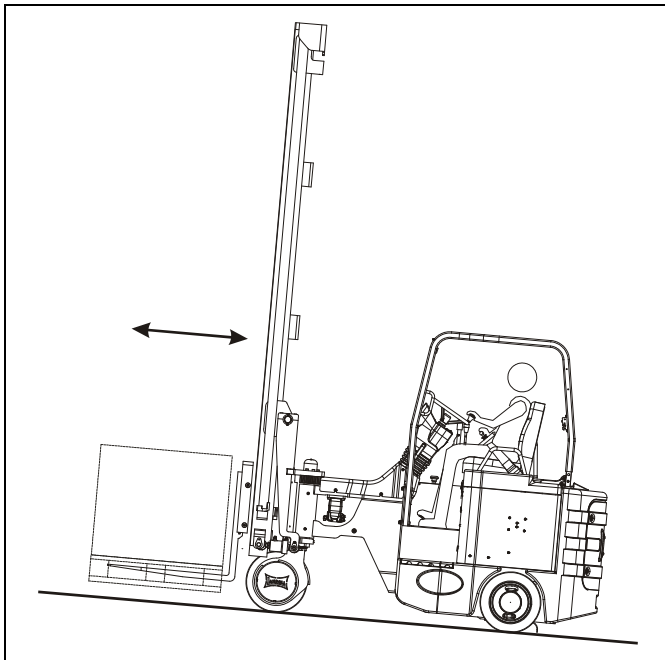

Figure 4-18: Traveling Uphill
- **Always keep the load pointed uphill.** See Figure 4-18. Travel with the forks facing uphill whether you are going up or down an incline. You must then back down an incline when you are carrying a load. If vision is obscured, arrange for a 'Banksman' to guide you.